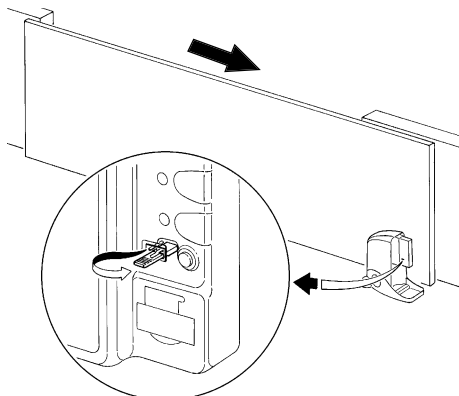
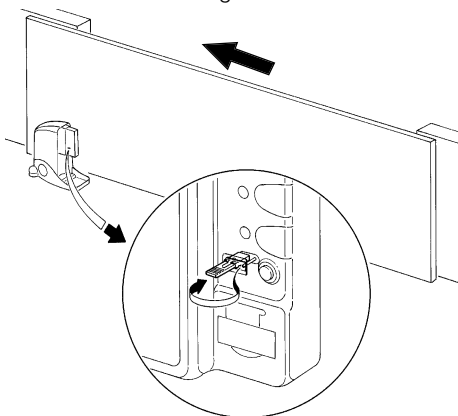

Figure 50
Figure 51
2 Depending on whether the gearmotor is on the right or the left, adjust the jumper selecting the direction of the "Open" manoeuvre as shown in figure 50 or figure 51.
- If the movement is not an opening manoeuvre, press the button again to stop the manoeuvre and invert the position of the jumper (see figure 50 or 51) on page 15. Then repeat point 2.